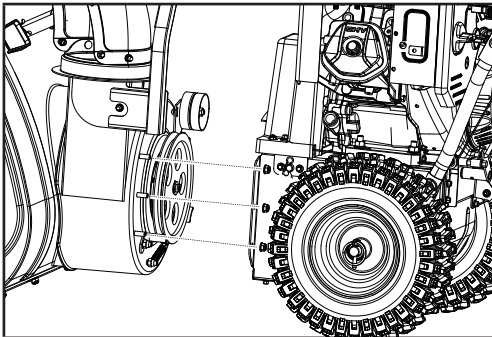

Figure 40
- Unscrew six M8 nuts to separate the auger housing from the base (Fig. 40).